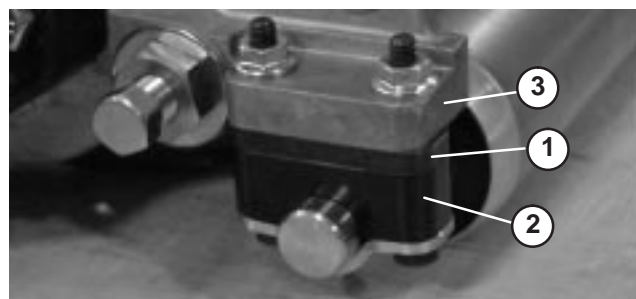

Figure 2
11. If the kit is mounted onto a DPA cutting unit and the height of cut is above 1/8 in., the rear roller spacers must be positioned below the side plate mounting flanges (Fig. 2).